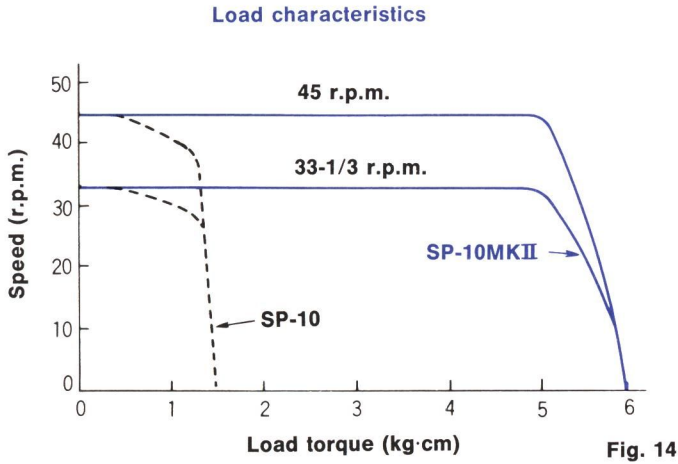

Fig. 14
⑤ STABLE LOAD CHARACTERISTICS (Fig. 14)